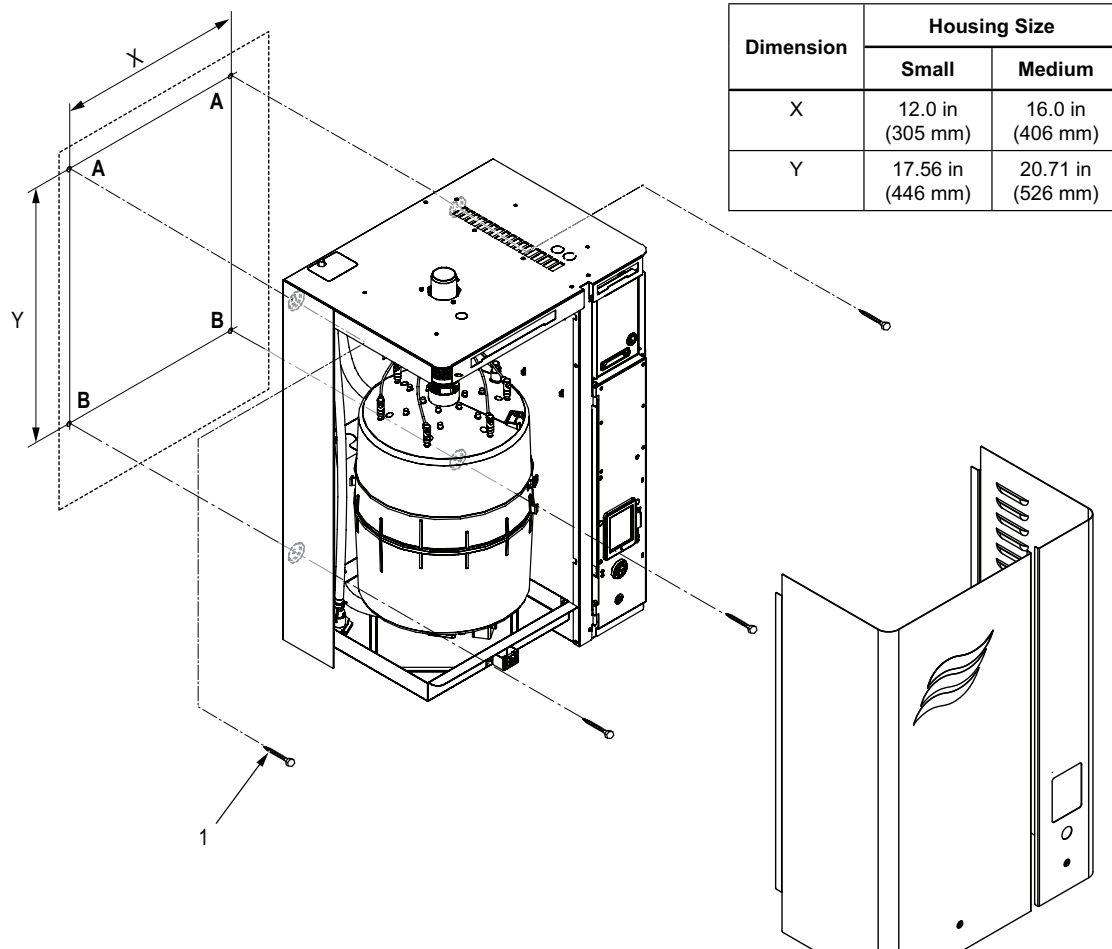
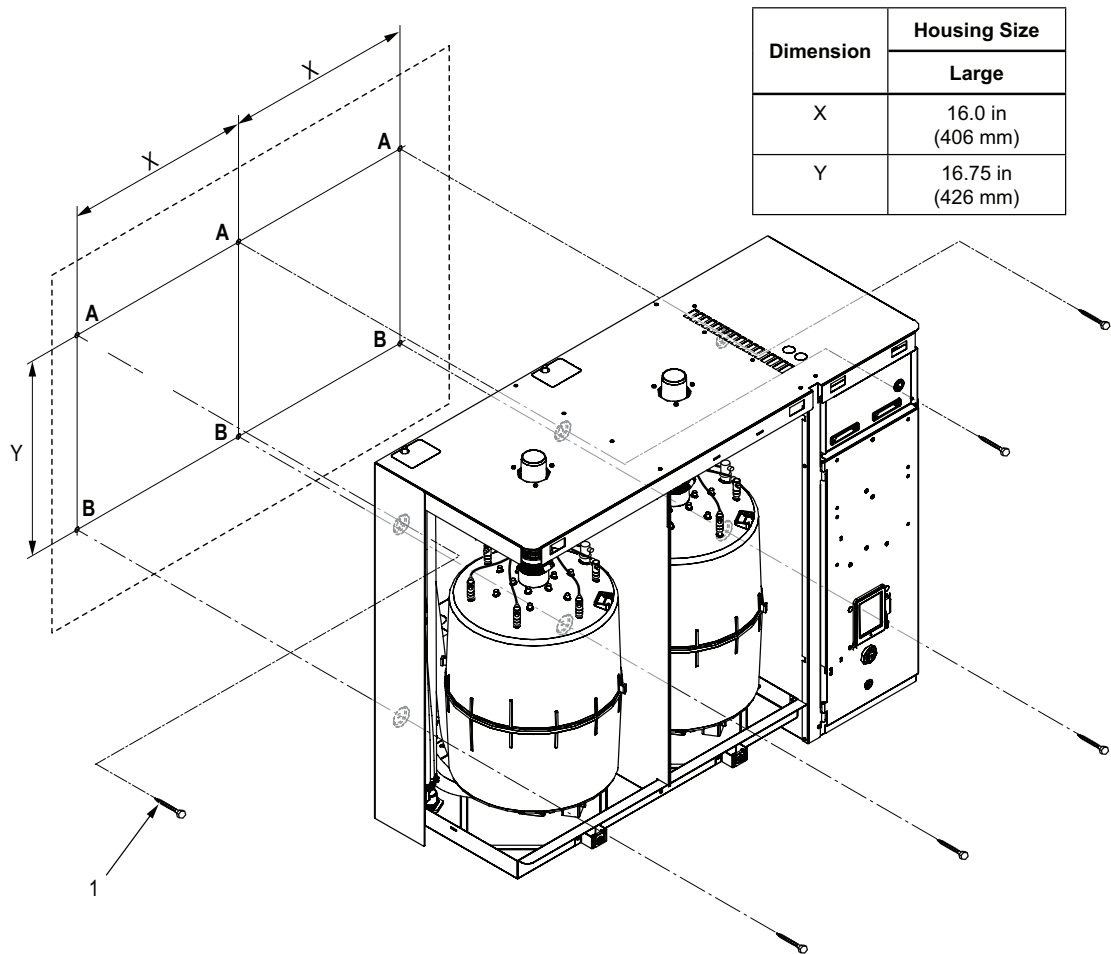

Figure 7: Standard Mounting, Small or Medium Housing
Figure 8: Standard Mounting, Large Housing
1. Locate 2×4 wooden studs or equivalent support in the mounting surface, and mark the attachment points "A" and "B" at the desired position with the help of a level. For small or medium housing refer to *Figure 7*. For large housing refer to *Figure 8 on page 19*.